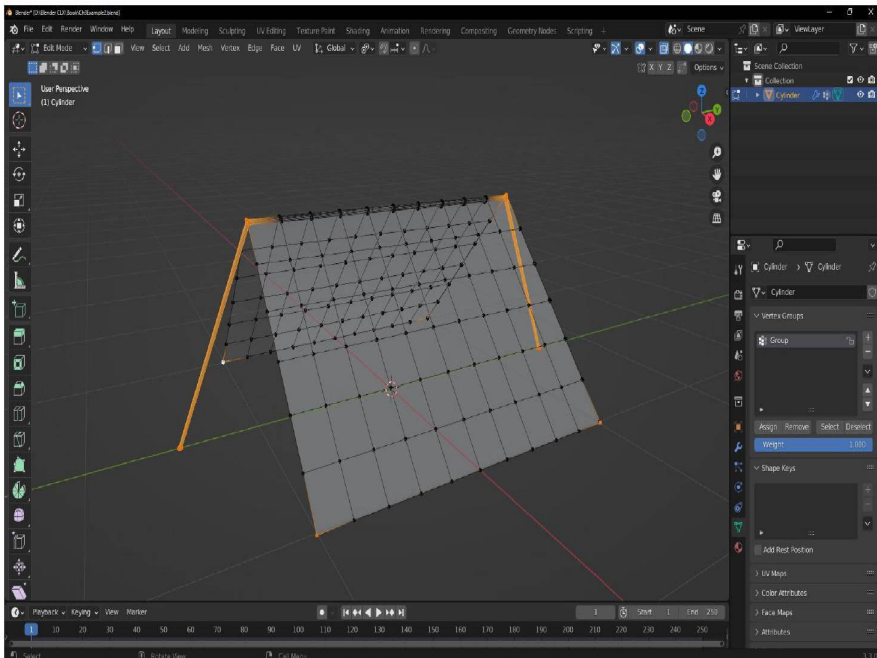

Figure 9.15: Rope ends, and four corners of the fabric section assigned to the Vertex Group
31. Add a new empty **Vertex Group** via the top section of the **Object Data Properties** tab of the **Properties** panel, and then press the **Assign** button, to assign the selected vertices to the **Group** as shown in *Figure 9.15*: